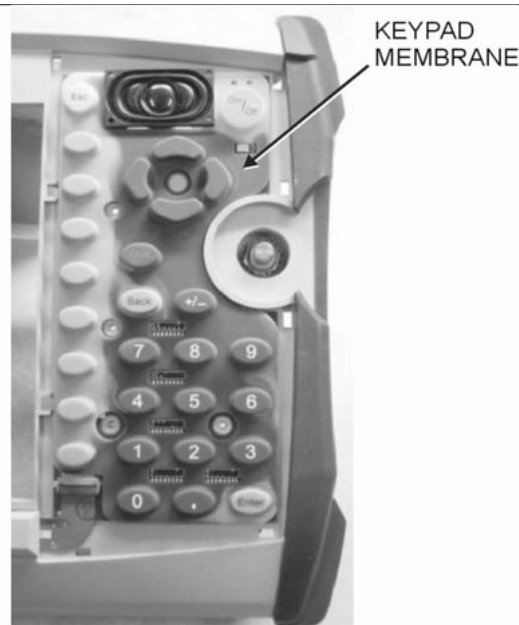

Figure 7-10. Keypad Membrane
- Remove the keypad membrane by carefully lifting the speaker and pulling the membrane off of the keypad PCB (Figure 7-10).